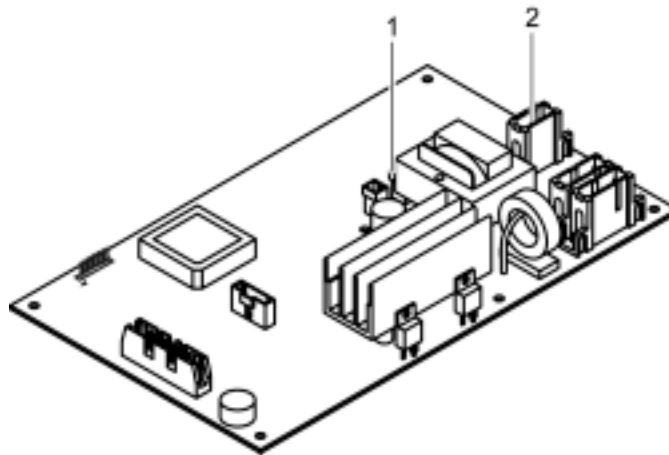

Figure 28: Rear Panel Assembly Cable Connections
13. Connect the rear panel assembly cables to the main PCB assembly. See Figure 28.